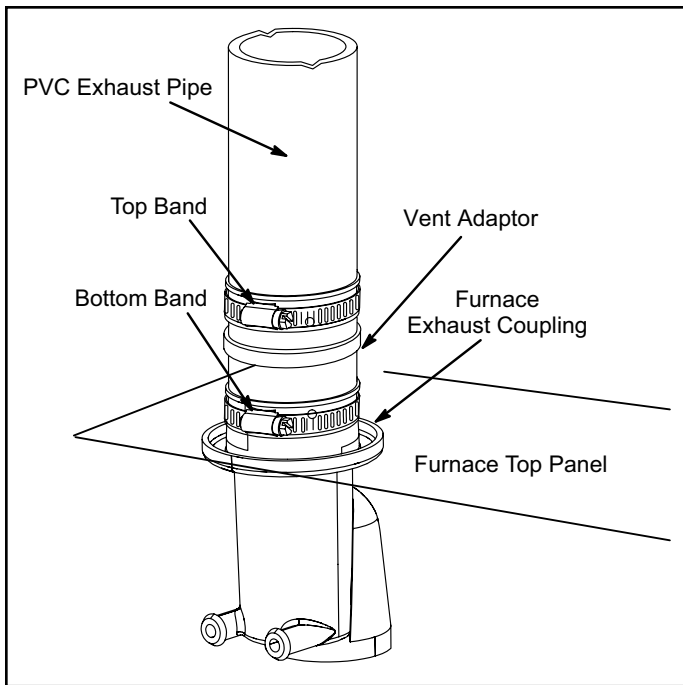

Figure 23. Appliance Adaptor to Exhaust Coupling
NOTE: *Exhaust coupling must be installed with provided appliance adapter. See Figure 23.*
See Figure 23, Figure 26 and Figure 27
4. Tighten both top and bottom bands to 40 in-lbs. See Figure 23.